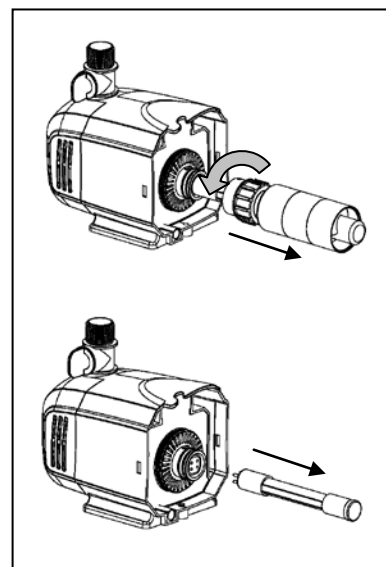

Fig. 14
8. Note: In the unlikely event the UV bulb needs replacing, remove glass tube by turning the glass tube assembly counterclockwise and pulling away from the lamp base. Gently pull bulb straight apart from the bulb socket and insert the replacement bulb in the reverse manner. Fig. 14